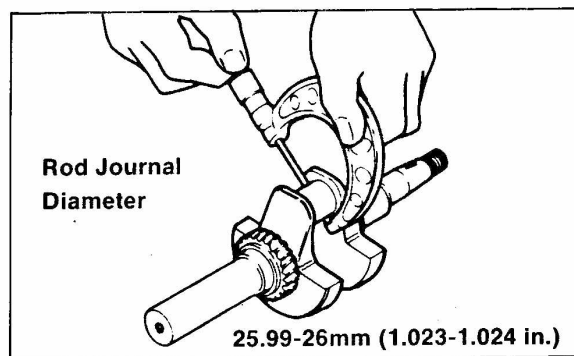

Figure 4-34
2. Measure the diameter of the crankshaft rod journal. The journal diameter should be 25.99 — 26.00 mm. (1.023 — 1.024 in.) See Fig. 4-34.